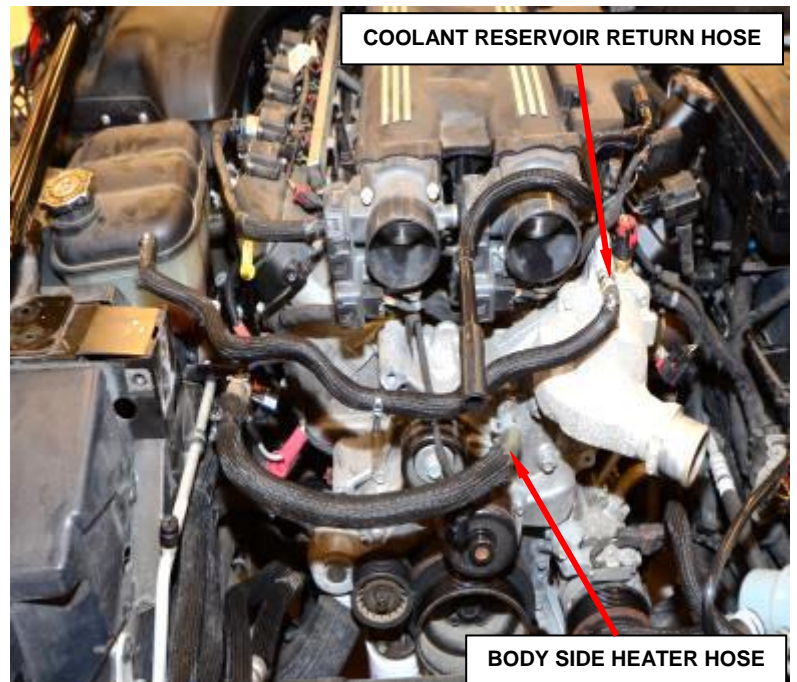

Figure 22 – Coolant Reservoir Return Hose
21. Disconnect the coolant reservoir return hose from the engine and position aside (Figure 22).
22. Disconnect the body side heater hose from the engine and position aside (Figure 22).